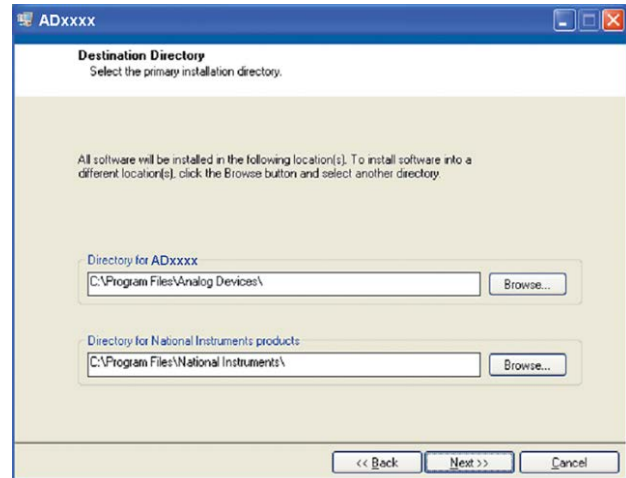

Figure 5. AD7124-8 Evaluation Software Installation: Selecting the Location for Software Installation
4. Select the location to install the software, and then click **Next**. (Figure 5 shows the default locations, which are displayed